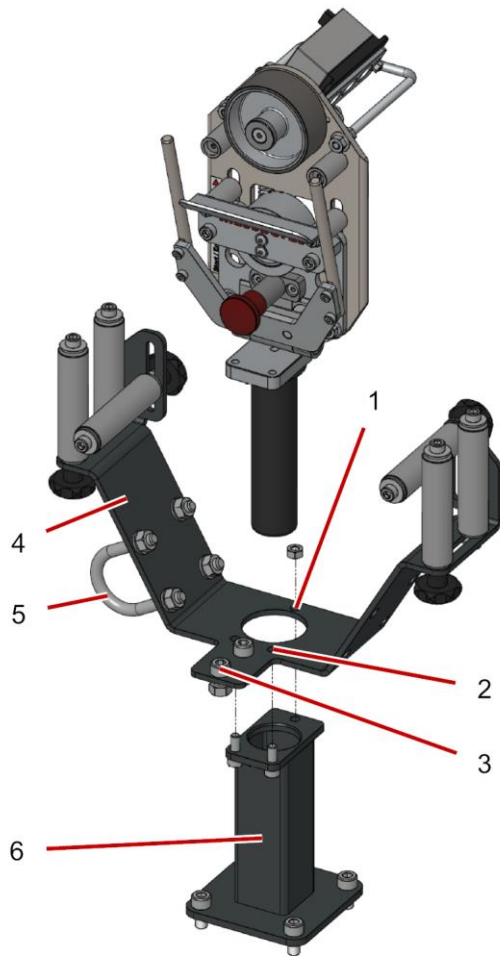

Fig. 6 Roller cages MESSBOI 25
- ▶ Through the front two fastening holes Fig. 6, 2, install the Allen screws into the threaded holes in the length measuring device.
- ▶ Through the rear fastening hole Fig. 6, 1, slide an Allen screw and secure with a nut.
- ▶ Through the fastening holes Fig. 6, 3, slide the Allen screws and fasten them with a nut to the length measuring device intake for the winder.
- ▶ Undo the fastener Fig. 6, 5 on the nuts.